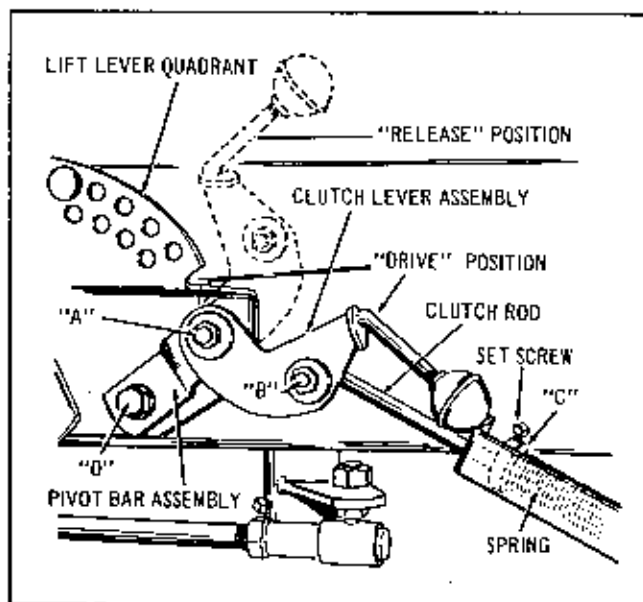

FIGURE 4
4. Remove Hex. Cap Screw "D" from frame of tractor and mount bracket in place on Lift Lever Quadrant. See Figure 4. Position the Pivot Bar Assembly flush against bottom of Lift Quadrant and re-install Hex. Cap Screw and tighten securely. Check alignment of Drive Pulley on Bevel Gear Shaft, driven pulley of Power Take-Off, and Idler Pulley, and adjust Driving Pulley if necessary.
Operation of the Power Take-Off is controlled by movement of the Clutch Lever Assembly. See Figure 4. When the Clutch Lever is in the forward raised position, the Clutch Rod releases the tension holding the Idler Pulley against the Drive Belt, and power will not be transmitted to the driven pulley of the Power Take-Off Assembly. When the Clutch Lever is in the back, depressed position, the Clutch Rod applies tension to the Idler Pulley and as the Idler Pulley takes up the slack in the Drive Belt, power is transmitted from the Drive Pulley on Bevel Gear Box Shaft to the driven pulley of the Power Take-Off. Figure 4 shows Clutch Lever in Drive position.
At points "A" and "B" of Figure 4, check tightness of Hex. Nut to be sure that Clutch Lever Assembly and Clutch Rod are free to pivot without binding.
Place Clutch Lever in "Drive" position and observe clearance between collar "C" (Figure 4) and end of bracket. When implement is attached to tractor, this clearance should normally be approximately $3/4"$; at this setting the Idler Pulley should be snugly against the Drive Belt. If additional tension is required, release Clutch Lever and loosen Set Screw on Collar and Slide Collar farther back on Clutch Rod. Retighten Set Screw in Collar and put Clutch Lever in Drive position. Recheck clearance. The tension of the Idler Pulley against the Drive Belt must be sufficient to operate whichever tractor attachment is being used. Any additional tension is unnecessary and will only cause premature failure of Belts and Idler Pulley bearings.